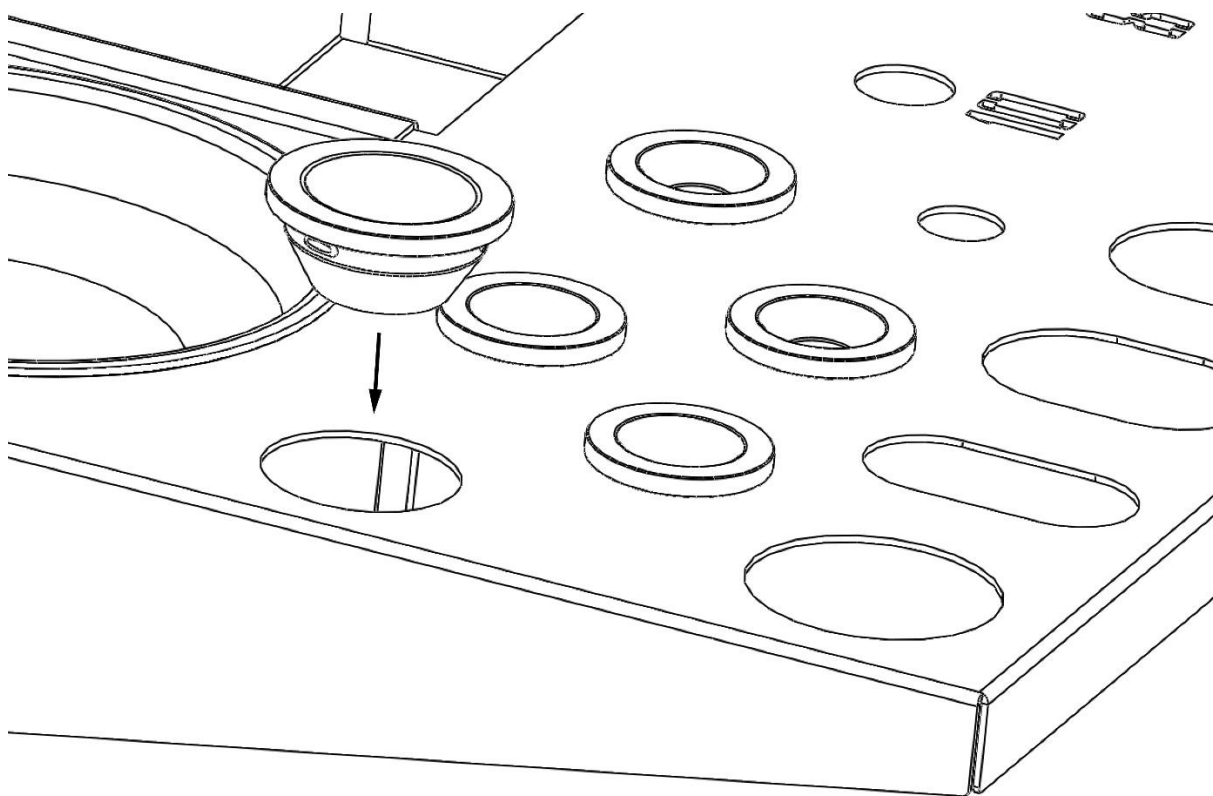

Figure 11: Optional plastic holders for screwdrivers
- ◆ The included plastic holders can be used to prevent screwdrivers from tilting in the Tool Tray. They are installed by inserting them into the cutouts from the top and pushing them in (Figure 11)